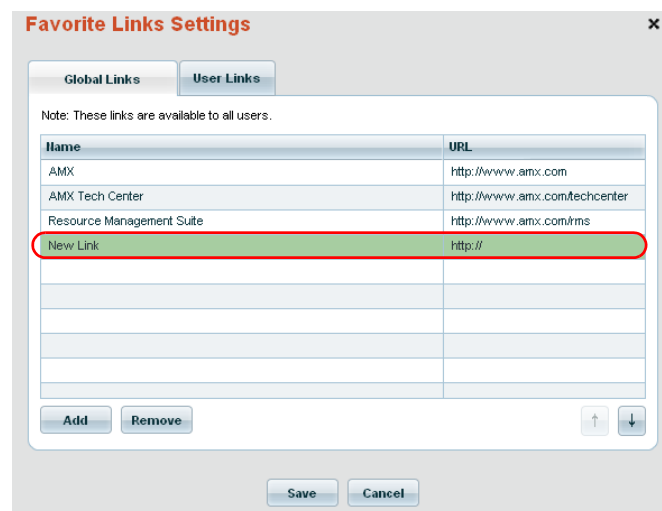

FIG. 115 Favorite Links Settings dialog - new Global Link entry
If the current user does not have global system configuration permissions assigned, then only the **User Links** tab (FIG. 115) is displayed.
3. In either the **Global Links** or the **User Links** tab, click the **Add** button. This action adds a new highlighted entry to the Favorites list, initially named "New Link" (FIG. 115).